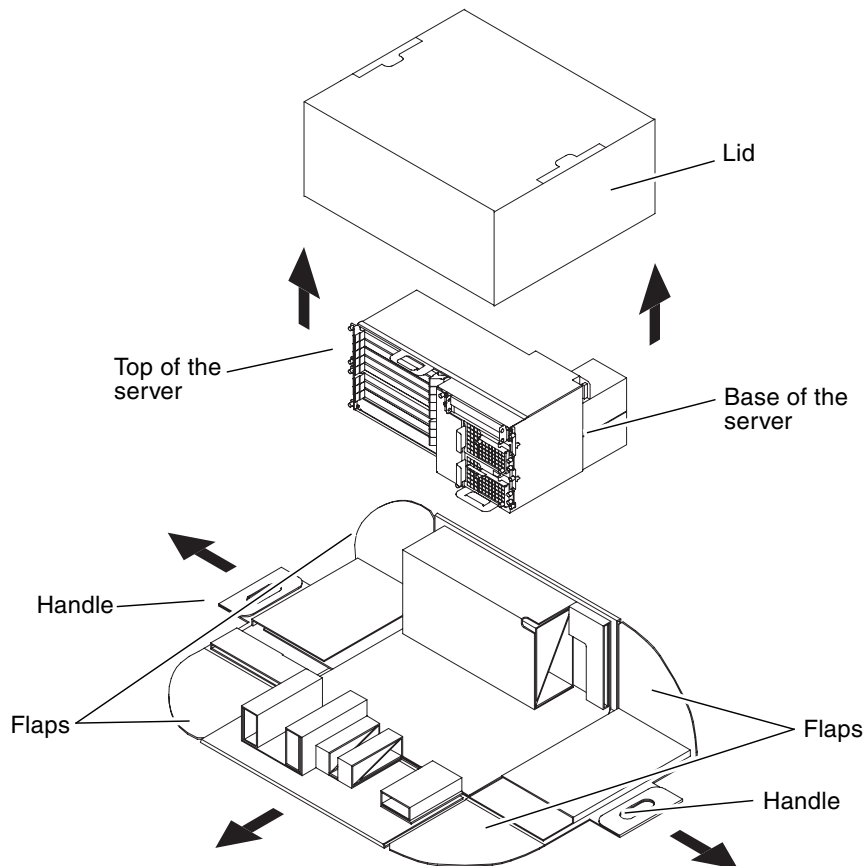

FIGURE 4-1 Unpacking a Netra CT Server
2. Lift the lid of the box straight up to remove the lid (FIGURE 4-1).
3. Grasp one of the handles and pull the handle down and away from the box until both flaps come completely free from the box sides (FIGURE 4-1).
5. Grasp the top of the server and tip the server up until it is resting on its base (FIGURE 4-1).